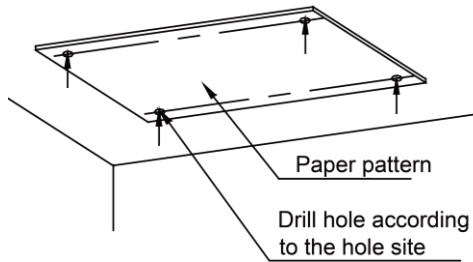
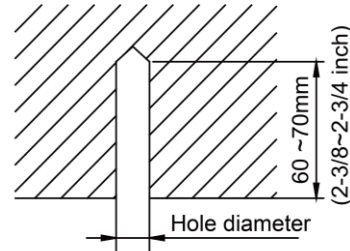

Fig 4.1.2
Fig 4.1.3
- (1) Cut out the installation paper pattern (cardboard template) according to the hook installation dimension of unit. Place the installation paper pattern on the installation area as shown in Fig. 4.1.2. Drill holes according to the 4 spots on the paper pattern. The diameter of hole should match the diameter of expansion bolt, about 60mm (2-3/8inch) to 70mm (2-3/4inch) depth, as shown in Fig. 4.1.3.